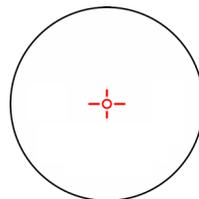

Figure 5
- The aiming reticle helps you aim accurately to the target. Figure 5 shows the reticle which is located at the center of the in-scope LCD and represents the size of the laser beam.